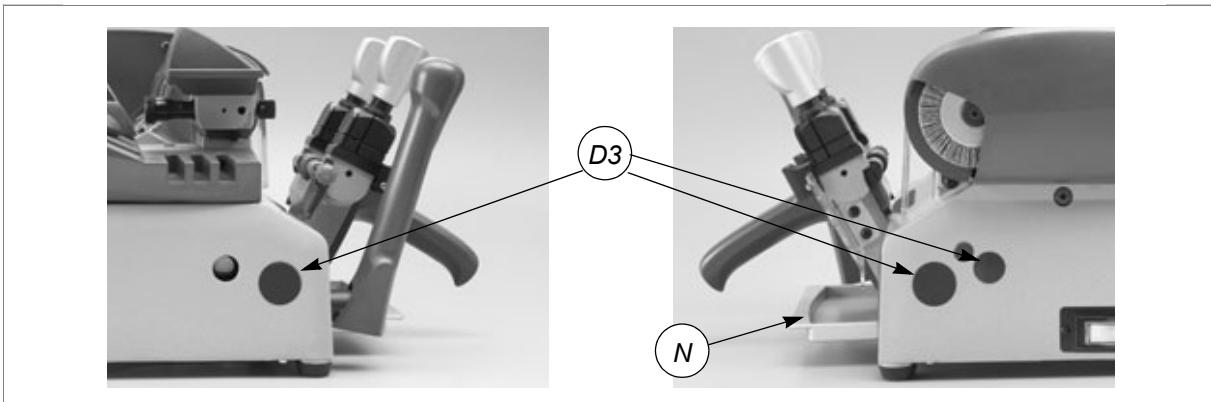
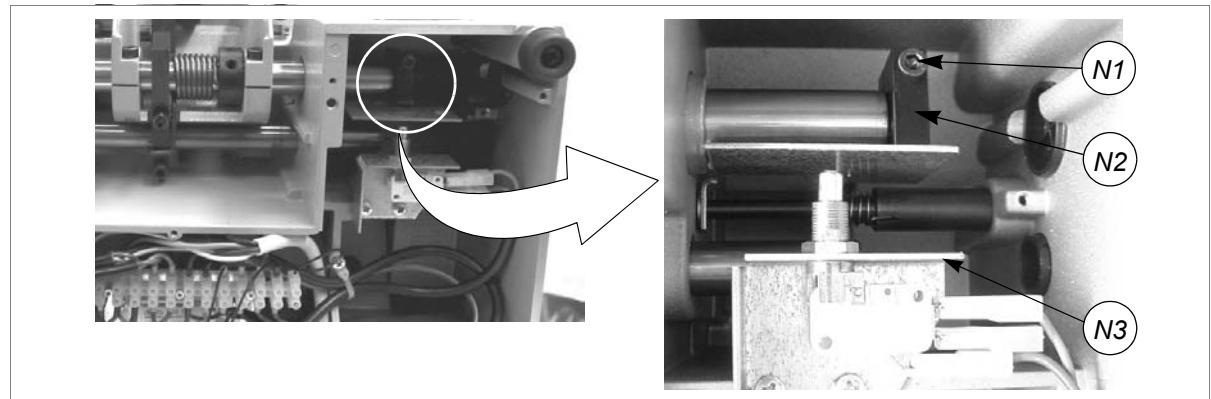

Fig. 50
Fig. 51
- 8) Remove the caps (D3) from the base (fig. 50, page 32).
- 9) Remove the swarf tray (N).
- 11) Loosen the 7 screws (W) and 2 feet (W1) and remove the bottom panel (W2) (ch.7.7, page 24).
- 12) Loosen the screw (N1) on the cam (N2) (fig. 51, page 32) and pull the cam to the right to remove.
- 18) Replace the cam (N2) so that it pushes the plate (N3) hard up against the microswitch; tighten the screw (N1) (fig. 51, page 32).
- 19) Replace the bottom panel and fix with the 7 screws (W) and 2 feet. Fit the swarf tray.
- 22) Replace the carriage safety shield (D1) and fit the knob (V), pressing it downwards.
- 24) Replace the protection from swarf (Z) and tighten the 2 screws (V1)